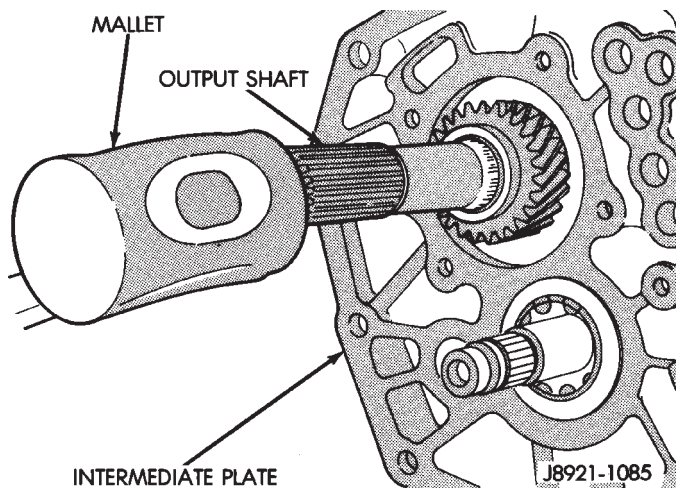

Fig. 55 Unseating Output Shaft Rear Bearing
- (3) Tap end of output shaft with mallet to unseat and start rear bearing out of intermediate plate (Fig. 55).